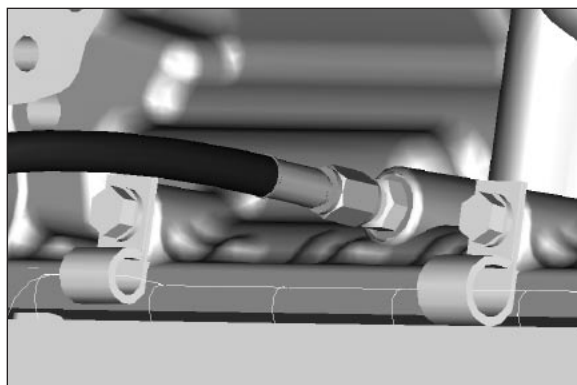

Fig. 8
7. Using the special fitting (379812) to securely attach the high pressure line to the transmission. This fitting is included with the P.T.O. Tighten to 8 - 10 Lbs. ft. [11.0 - 13.5 N.m.] (**Fig. 8**).